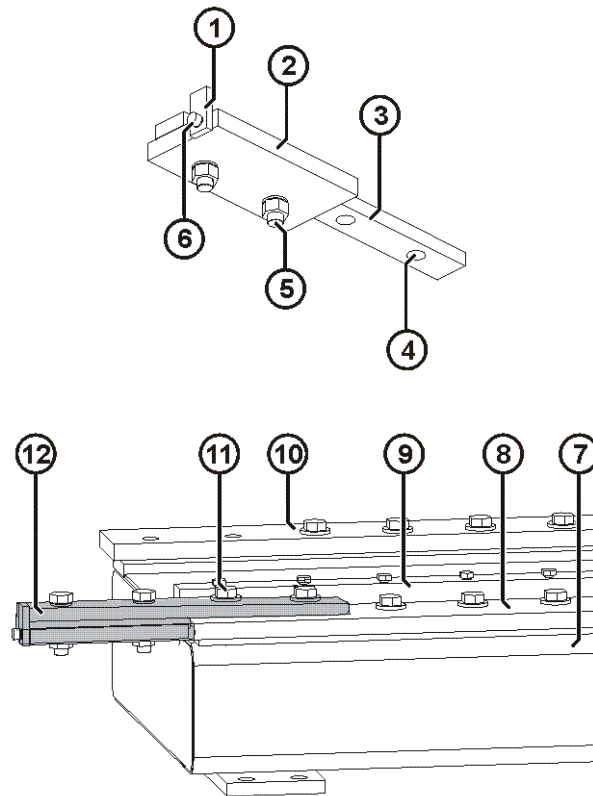

Fig. 11-8: Removing the auxiliary device
1. Remove the two hexagon bolts (>>> Fig. 11-8) (11) and lock washers from the auxiliary device and remove the auxiliary device.